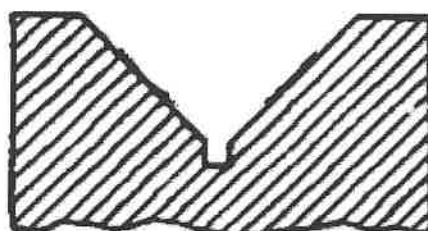

Figure Q1 V Block
c) You are asked to measure the V block angle shown in Figure Q1. What is the instrument you are going to use for that? Explain the procedure used to measure the angle, supported by a neat sketch.